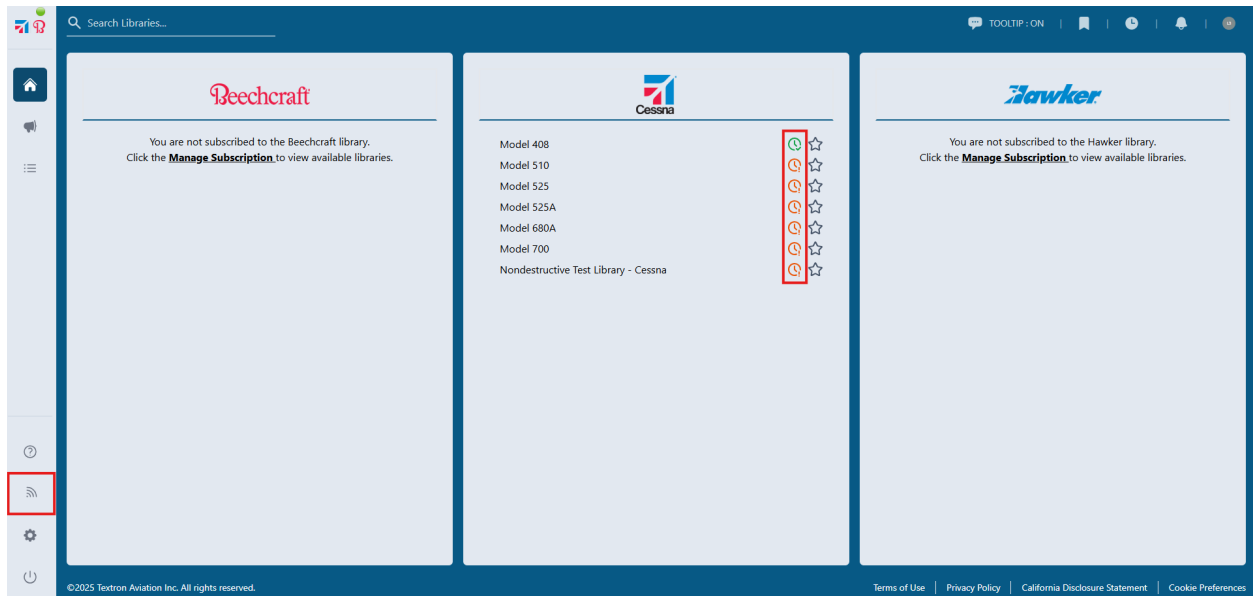

Figure 3 – Common example of 1View homepage with Subscriptions to manage.
4.  The clock icon represents the subscription status of a particular library (Refer to Figure 3).